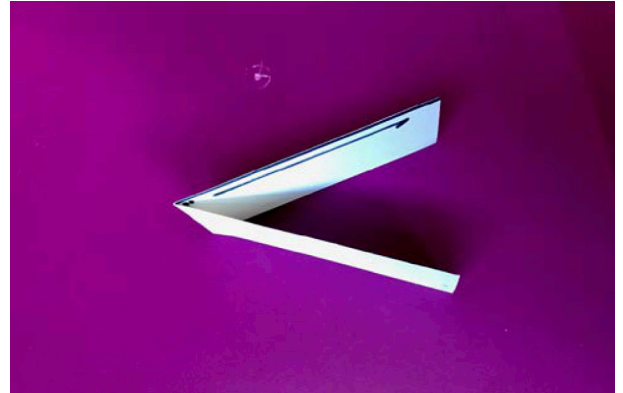

Figure 5: Fold in the middle.
- Tail assembly: Take your second section of paper, and fold in the middle to make a tight crease. See Figure 5.